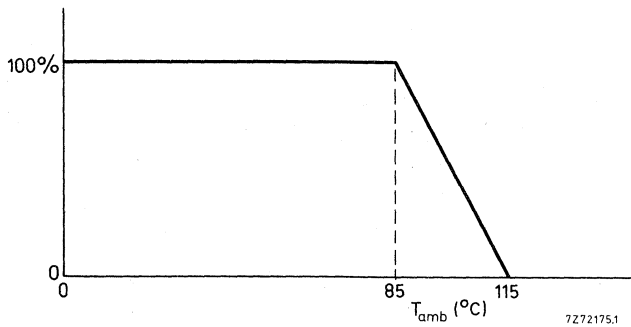

Fig. 3. Derating of maximum voltage with temperature.
5) The d. c. working voltage is the average value of the applied working voltage. For ambient temperatures higher than 85 °C the maximum values must be derated as indicated in Fig. 3.